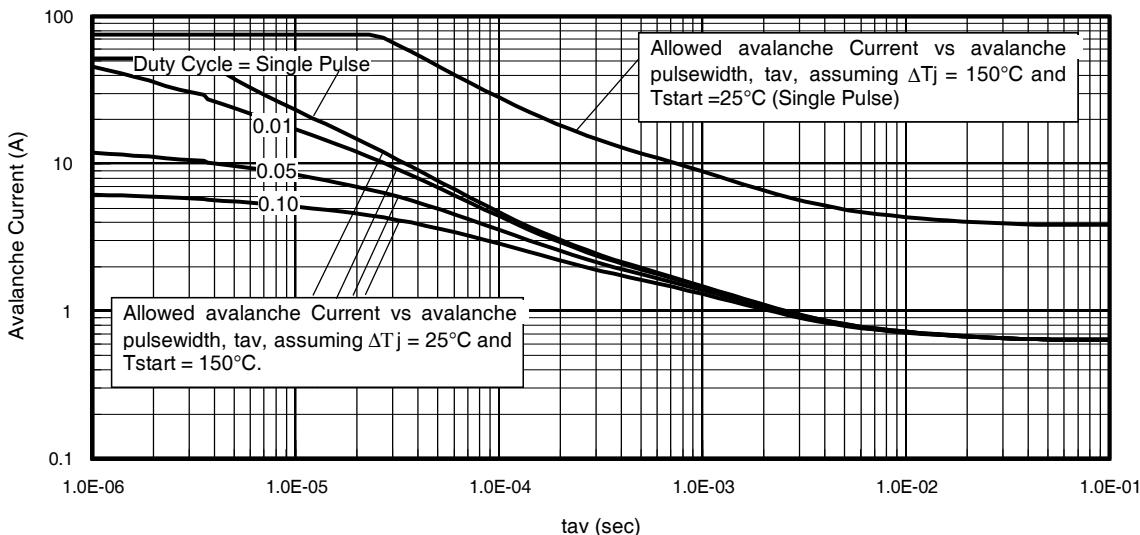

Fig 14. Typical Avalanche Current vs.Pulsewidth
Notes on Repetitive Avalanche Curves , Figures 14, 15:
7. ΔT = Allowable rise in junction temperature, not to exceed T_{jmax} (assumed as 25°C in Figure 14).